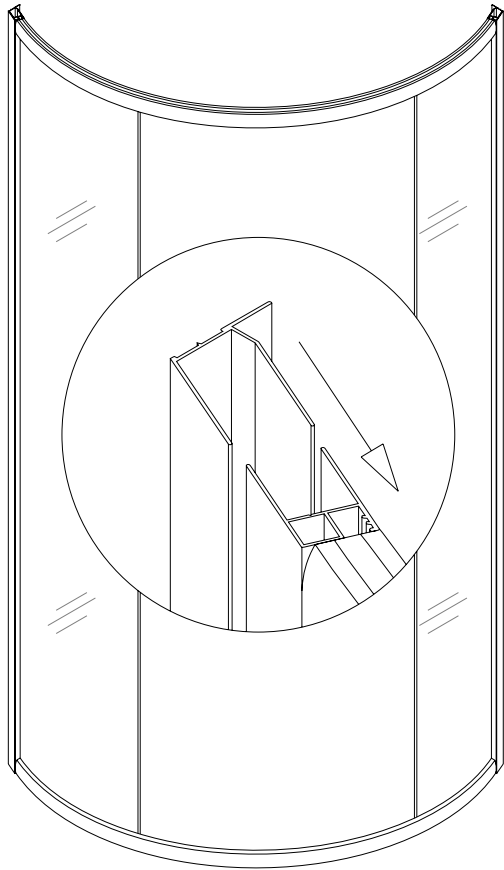

Fig 5
4. Push the Wall profile (1) all the way over the Glass profile (2). Be sure to keep a tong with predrilled holes inside of shower (fig 5).